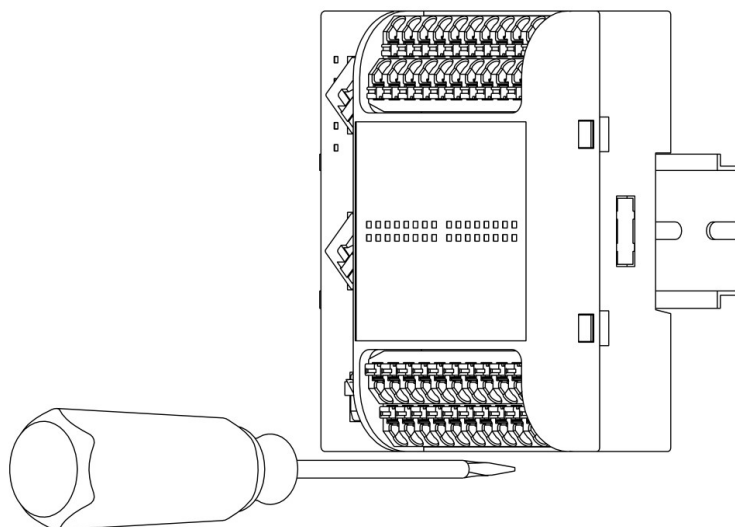

Figure 3-2 Module Installation
2. Hang the module on DIN35 On the rail, use a flat-blade screwdriver to push the rail clip at the bottom into place and lock it, as shown in Figure 3-2 shown.